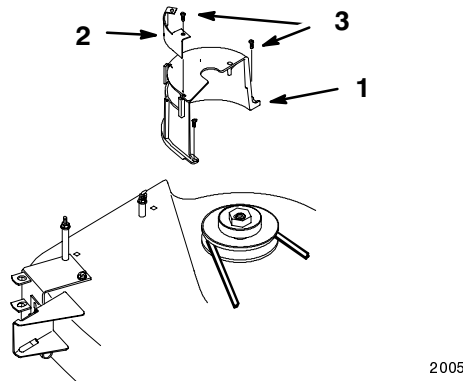

Figure 30
3. Install the metal window onto the belt cover using existing hardware (Fig. 30).
4. Install the belt cover using existing hardware (Fig. 30).